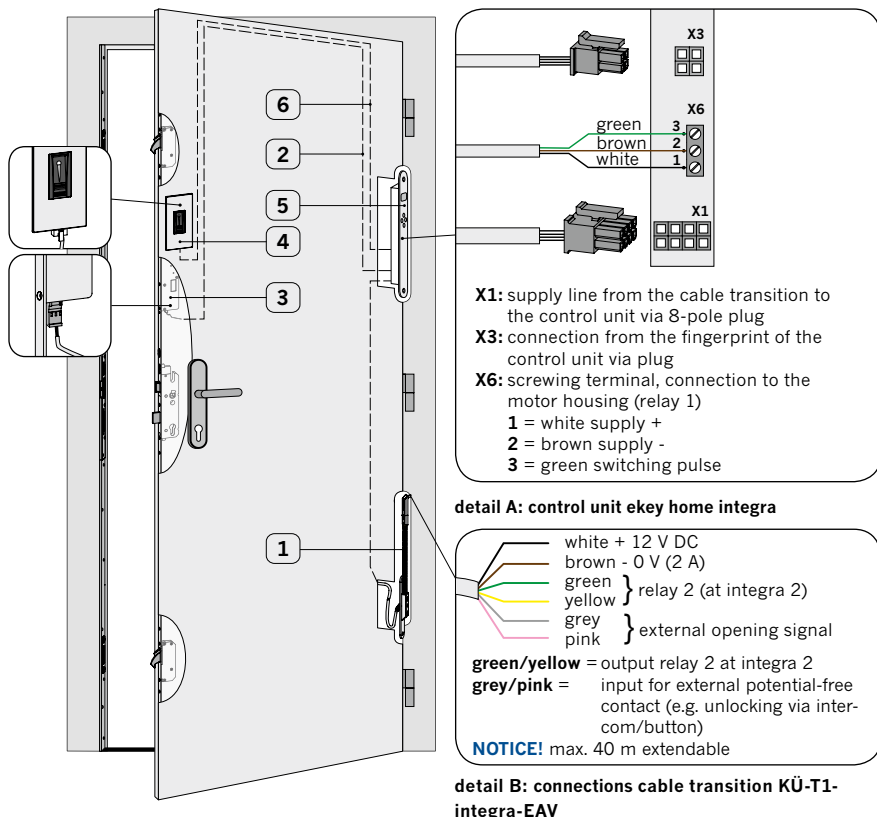

Figure 3.6.2-1: wiring blueMatic EAV and fingerprint ekey home integra
- This potential-free signal can be tapped at the wires green/yellow of the frame part of the separable cable transition KÜ-T1-integra-EAV (1) (see figure 3.6.2-1, detail B → connection green/yellow).